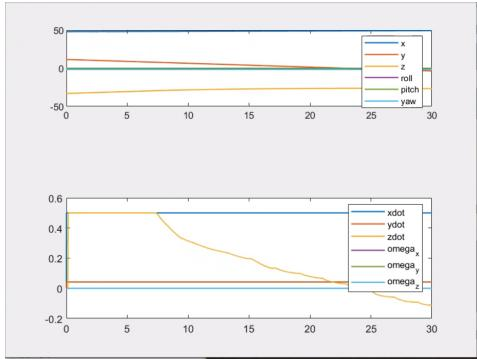

Figure 7: Position and velocities during the Minimum Altitude Vehicle task imposed 10m threshold
- **5 m:** The same as before, the activation is active at the first instant because again the initial position is below the minimum altitude. This control task is a safety one, so every time the UVMS is under the minimum altitude is active and it has the highest priority. Again, it seems no reasonable to perform such big gap with the seafloor (Reported graph, Figure 7).